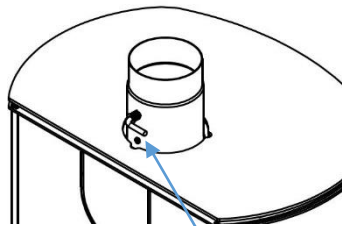

Figure 17
- Turn the regulator handle on the flue extension perpendicular to the pipe axis (figure 17). Note that the parts are already heated; therefore, use protective gloves.